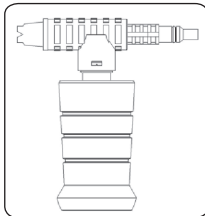

FIGURE 8.13
5. Pull the nozzle forward to spray detergent (1700W, 2000W and 2600W Figures 8.13, 8.14 and 8.15).